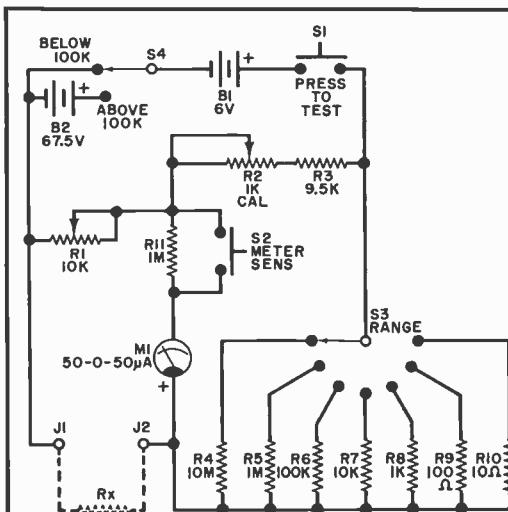

Fig. 1. The bridge can measure from 0.1 ohm to 10 megohms with 0.5% accuracy.
**Construction.** The circuit, shown in Fig. 1, is wired point-to-point, with #18 connecting wire. (This size wire is necessary to avoid inaccuracies in the lowest range.) The bridge can be assembled in a wooden or metal box about 2½" x 7" x 7" or larger. All components are mounted on the front panel except the 4 "D" cells, which are secured to the case by a holder, and the 67½-volt battery which may be held by a clamp.